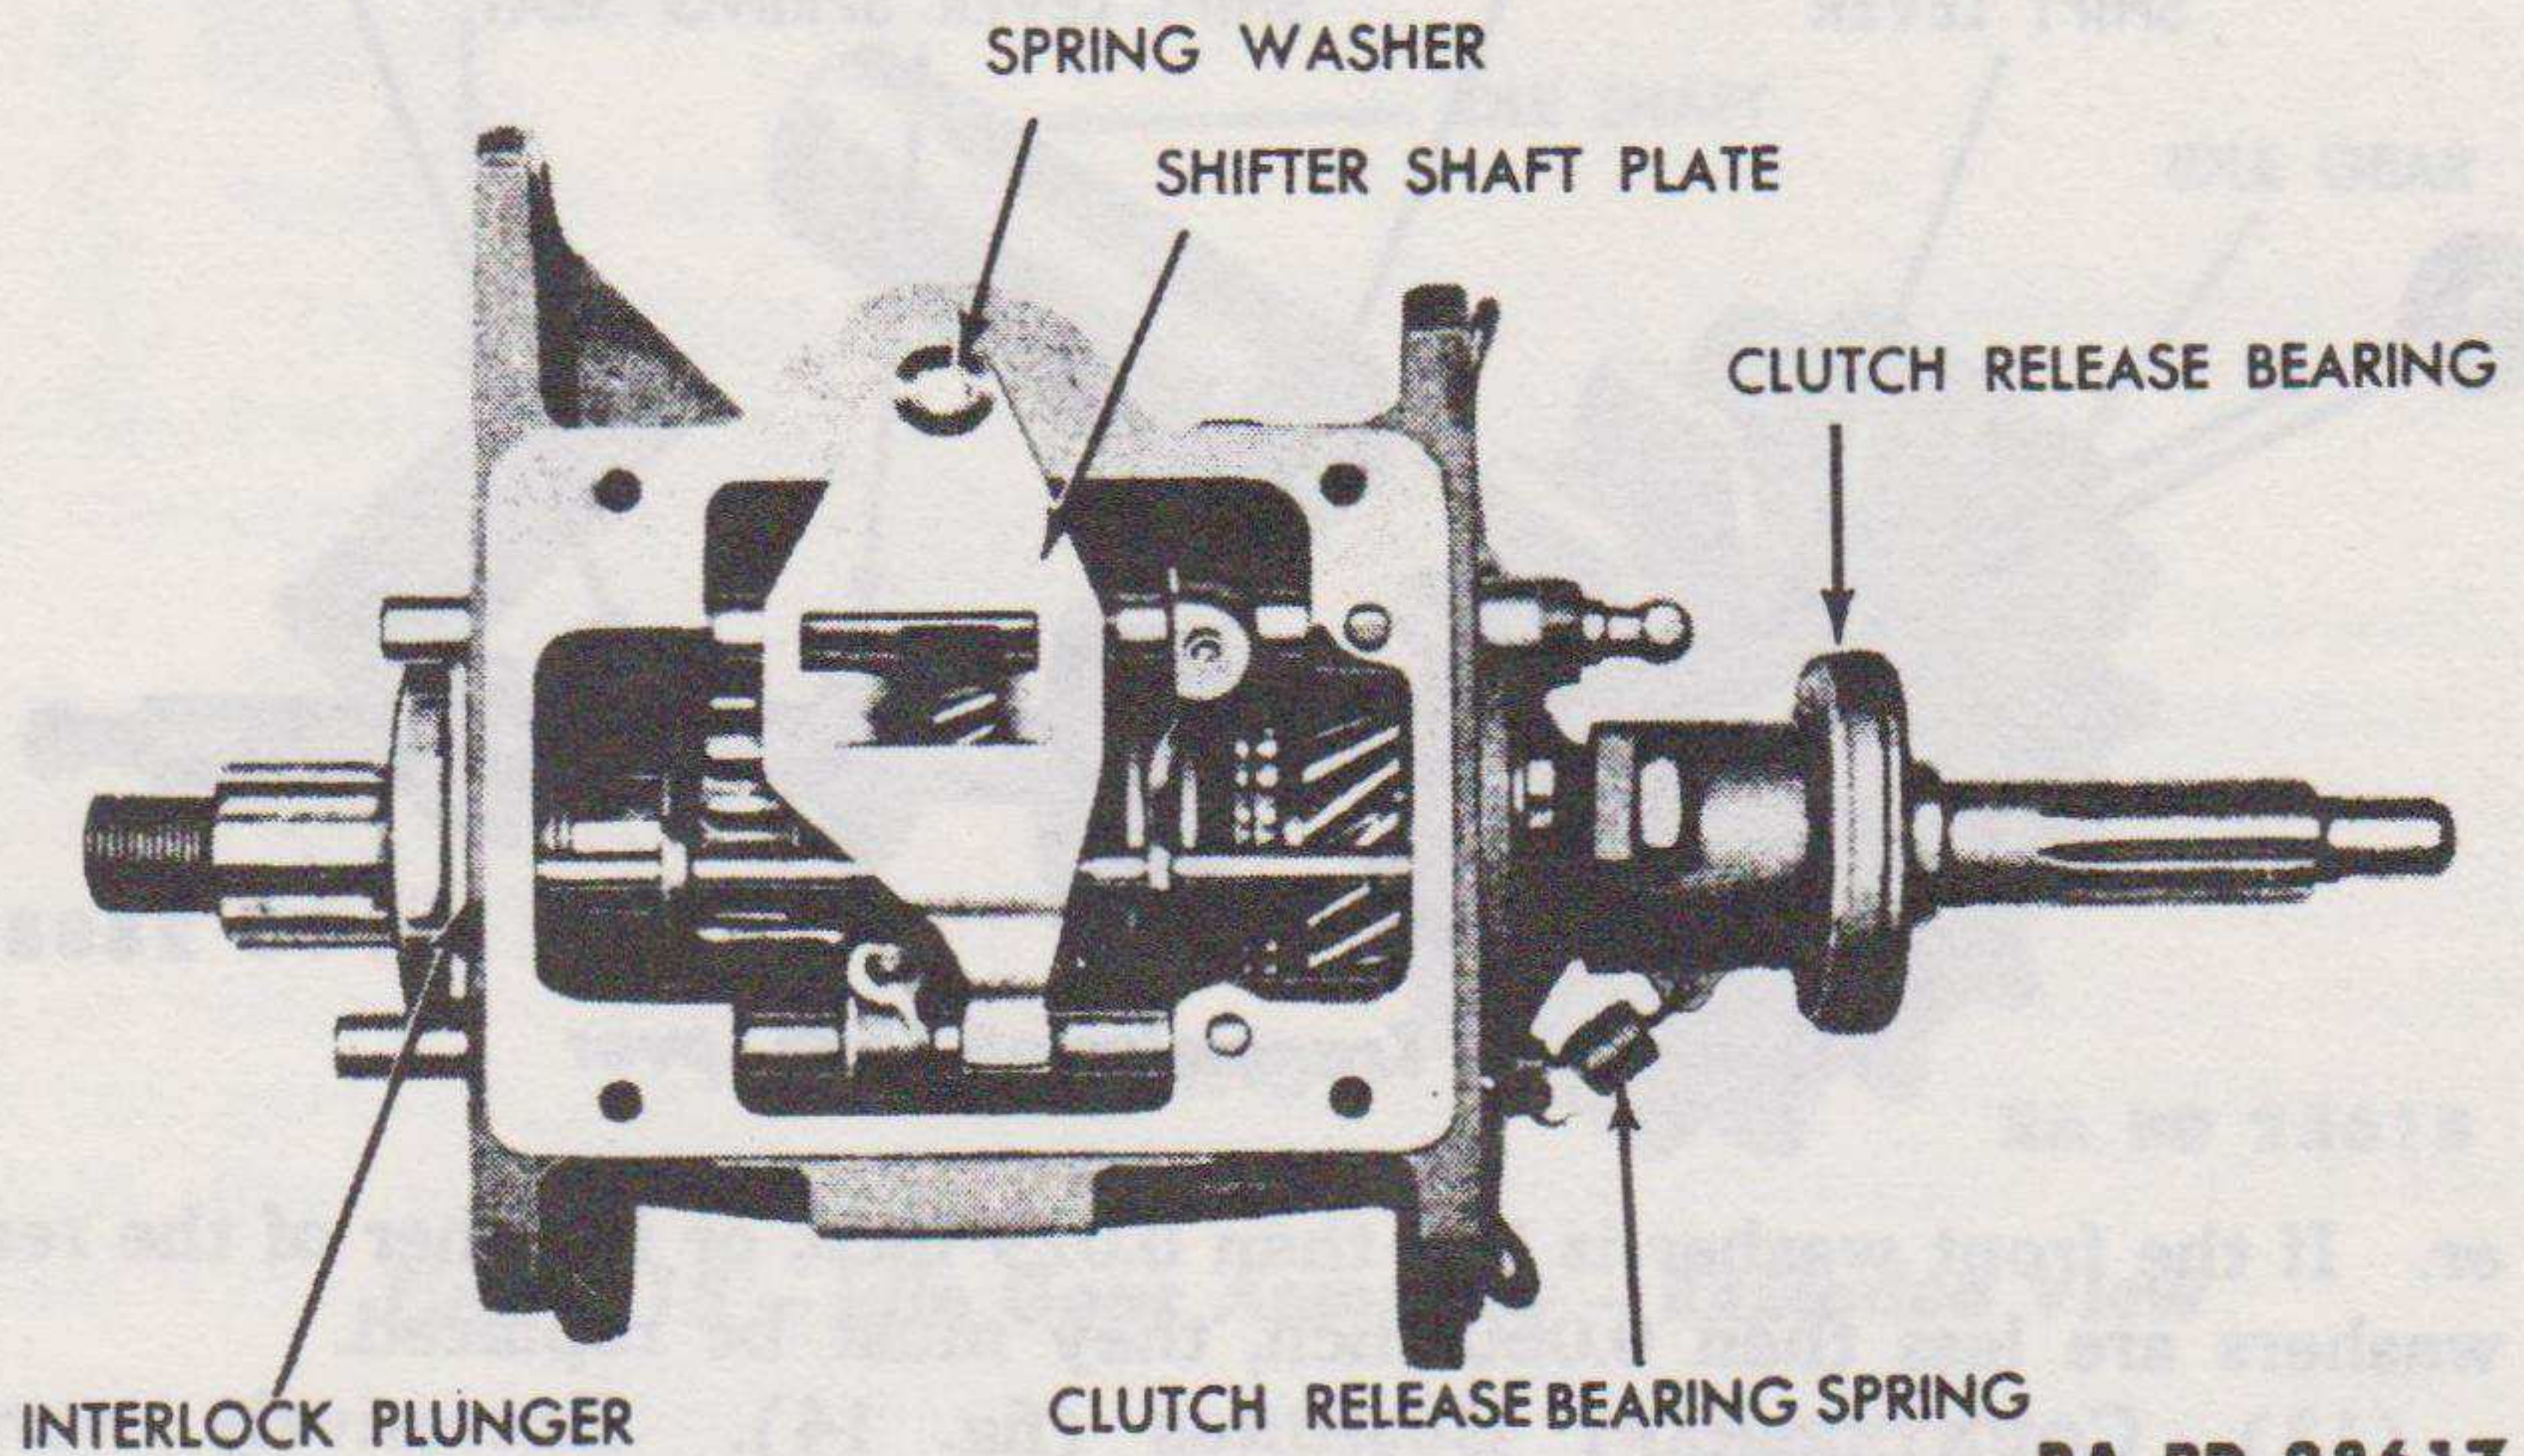

Figure 17 — Gears Installed in Transmission — Top View
a. **Remove Gearshift Housing.** Remove the four cap screws that secure the gearshaft housing to the transmission (fig. 4). Lift the housing, shifter shaft plate, and spring washer from the transmission (fig. 17).
h. **Install Gearshift Housing on Case (fig. 17).** Place the transmission in neutral position. Lay the shifter shaft plate on the pivot and on the shifter shafts. Lay the spring washer on the pivot. Place a new gearshift housing gasket on the case. Place the shift lever in neutral position. Lay the housing on the transmission and install the four lock washers and cap screws in the housing.